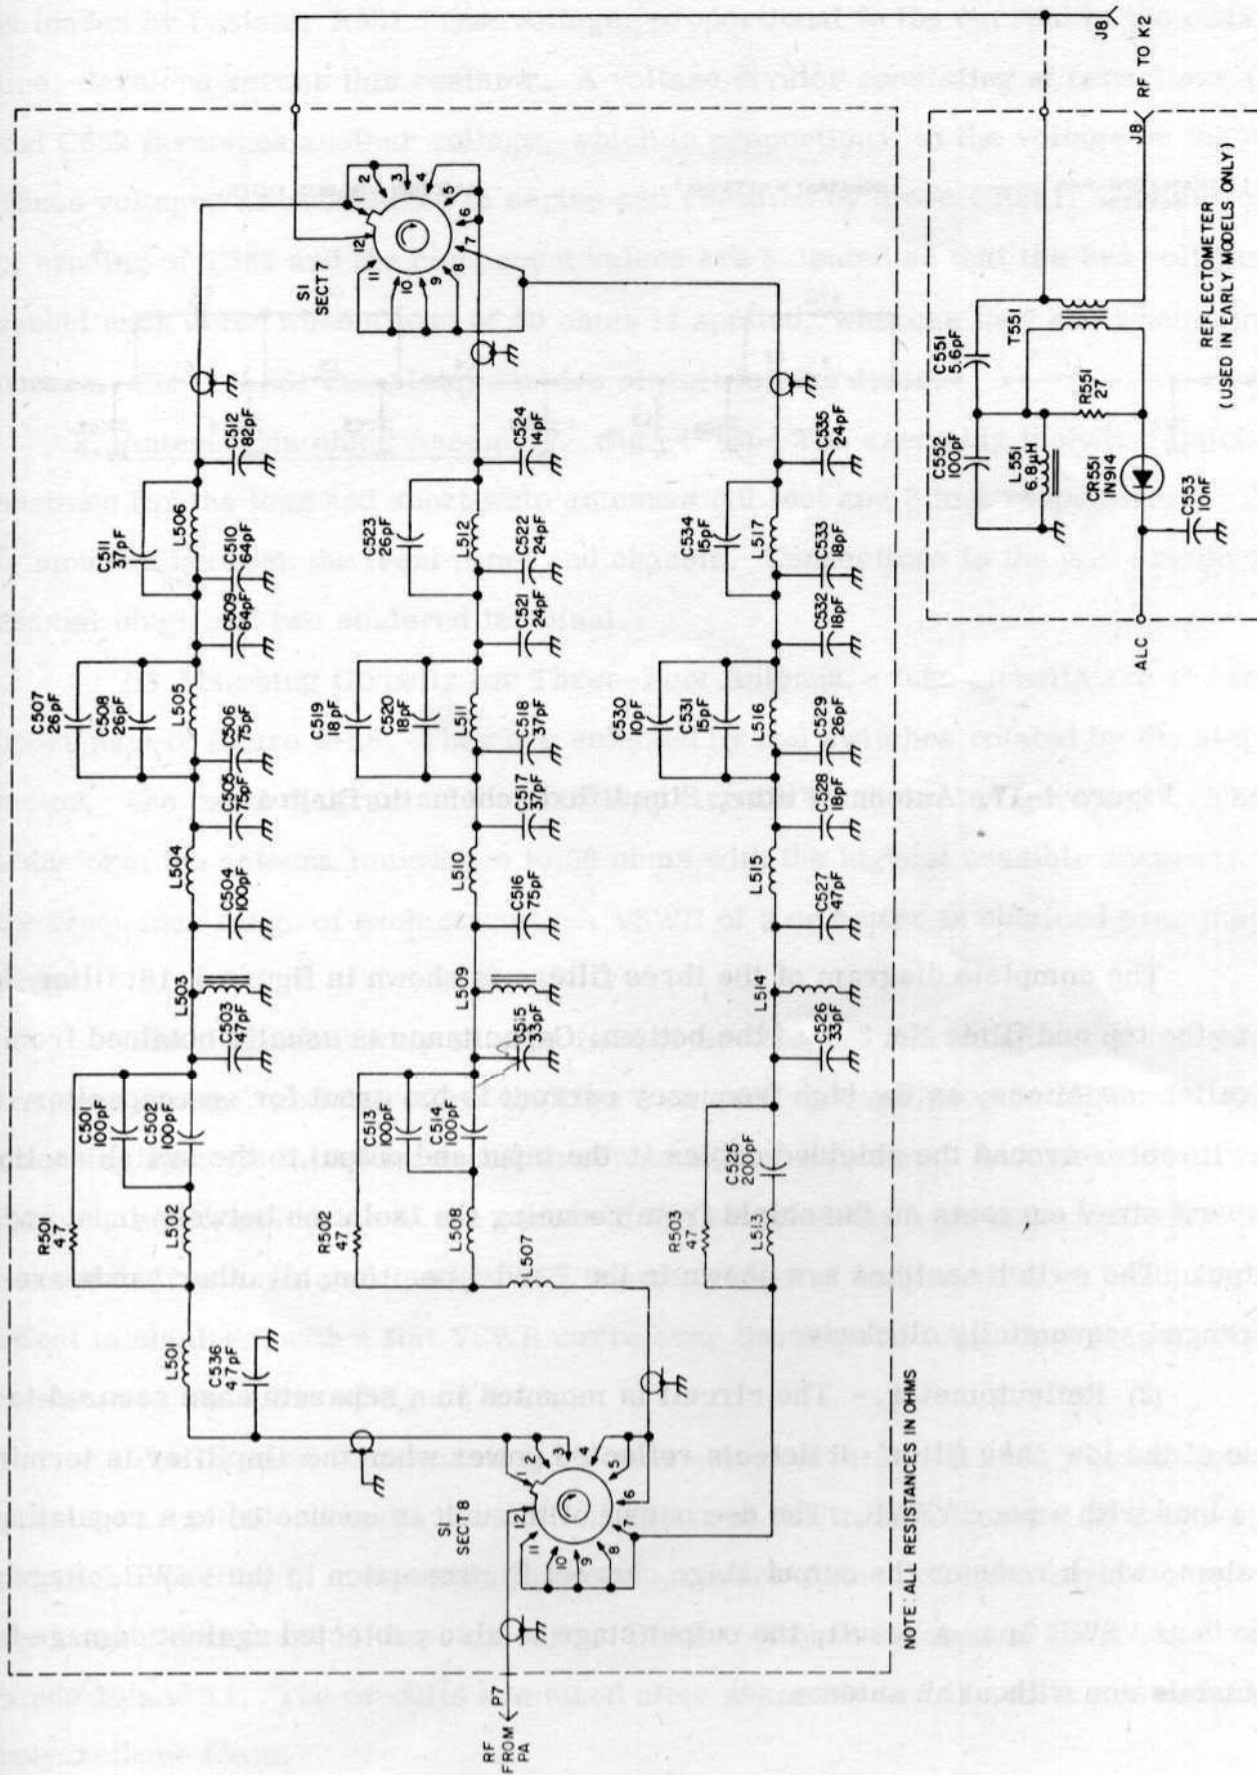

Figure 4-16. Antenna Filter Assembly A500, Schematic Diagram
j. Antenna Filter. (fig. 4-16)- The unit includes three low-pass filters with switch sections and a reflectometer. The unit is mounted between the front panel and the chassis. Connections to the unit are through two coaxial plugs and a soldered terminal.
(1) Low-Pass Filters.- These three filters are similarly constructed, but have different cutoff frequencies. The passbands and cutoff frequencies are as follows:
The complete diagram of the three filters is shown in figure 4-16; filter No. 1 is at the top and filter No. 3 is at the bottom. Capacitance is usually obtained from two parallel capacitors, as the high frequency current is too great for one capacitor. Ferrite cores around the shielded cables in the input and output to the switch sections prevent stray currents on the shield from reducing the isolation between input and output. The switch sections are shown in the Band 1 position; all other bands are arranged sequentially clockwise.